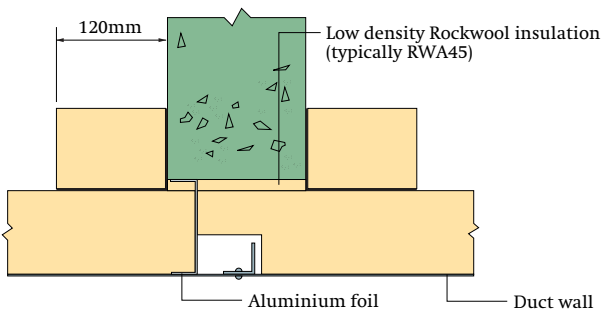

Figure 8 Steel angle frame support to duct at penetration mid point
- a $30 \times 30 \times 2\text{mm}$ mild steel angle frame fixed to the duct at the penetration mid point. Steel rivets should be used at 300mm maximum centres (Figure 8),